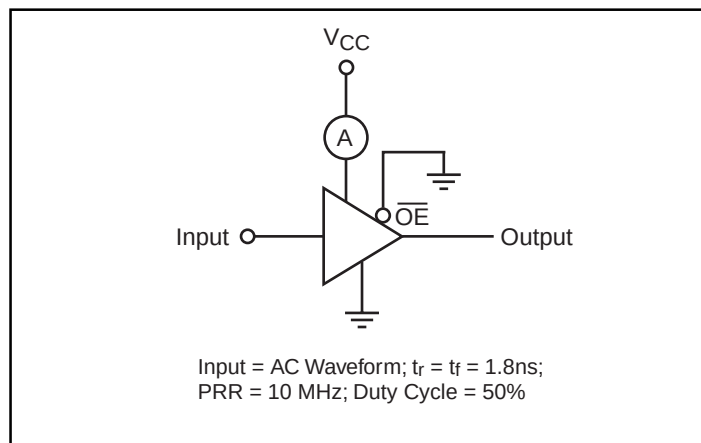

Figure 2. ICCD Test Circuit
3. C_{PD} is defined as the value of the internal equivalent capacitance which is derived from dynamic operating current consumption (I_{CCD}) at no output loading and operating at 50% duty cycle (see Figure 2). C_{PD} is related to I_{CCD} dynamic operating current by the expression: I_{CCD} = (C_{PD})(V_{CC})(f_{IN}) + (I_{CC} static).